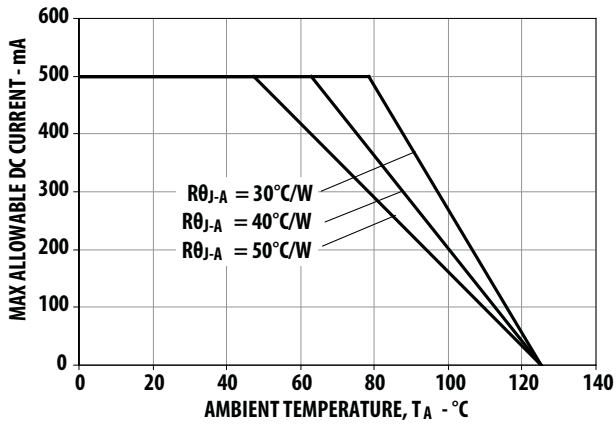

Figure 10. Maximum Forward Current vs. Ambient Temperature.
1. Derate linearly based on Figure 10 for AllInGaP and Figure 22 for InGaN.